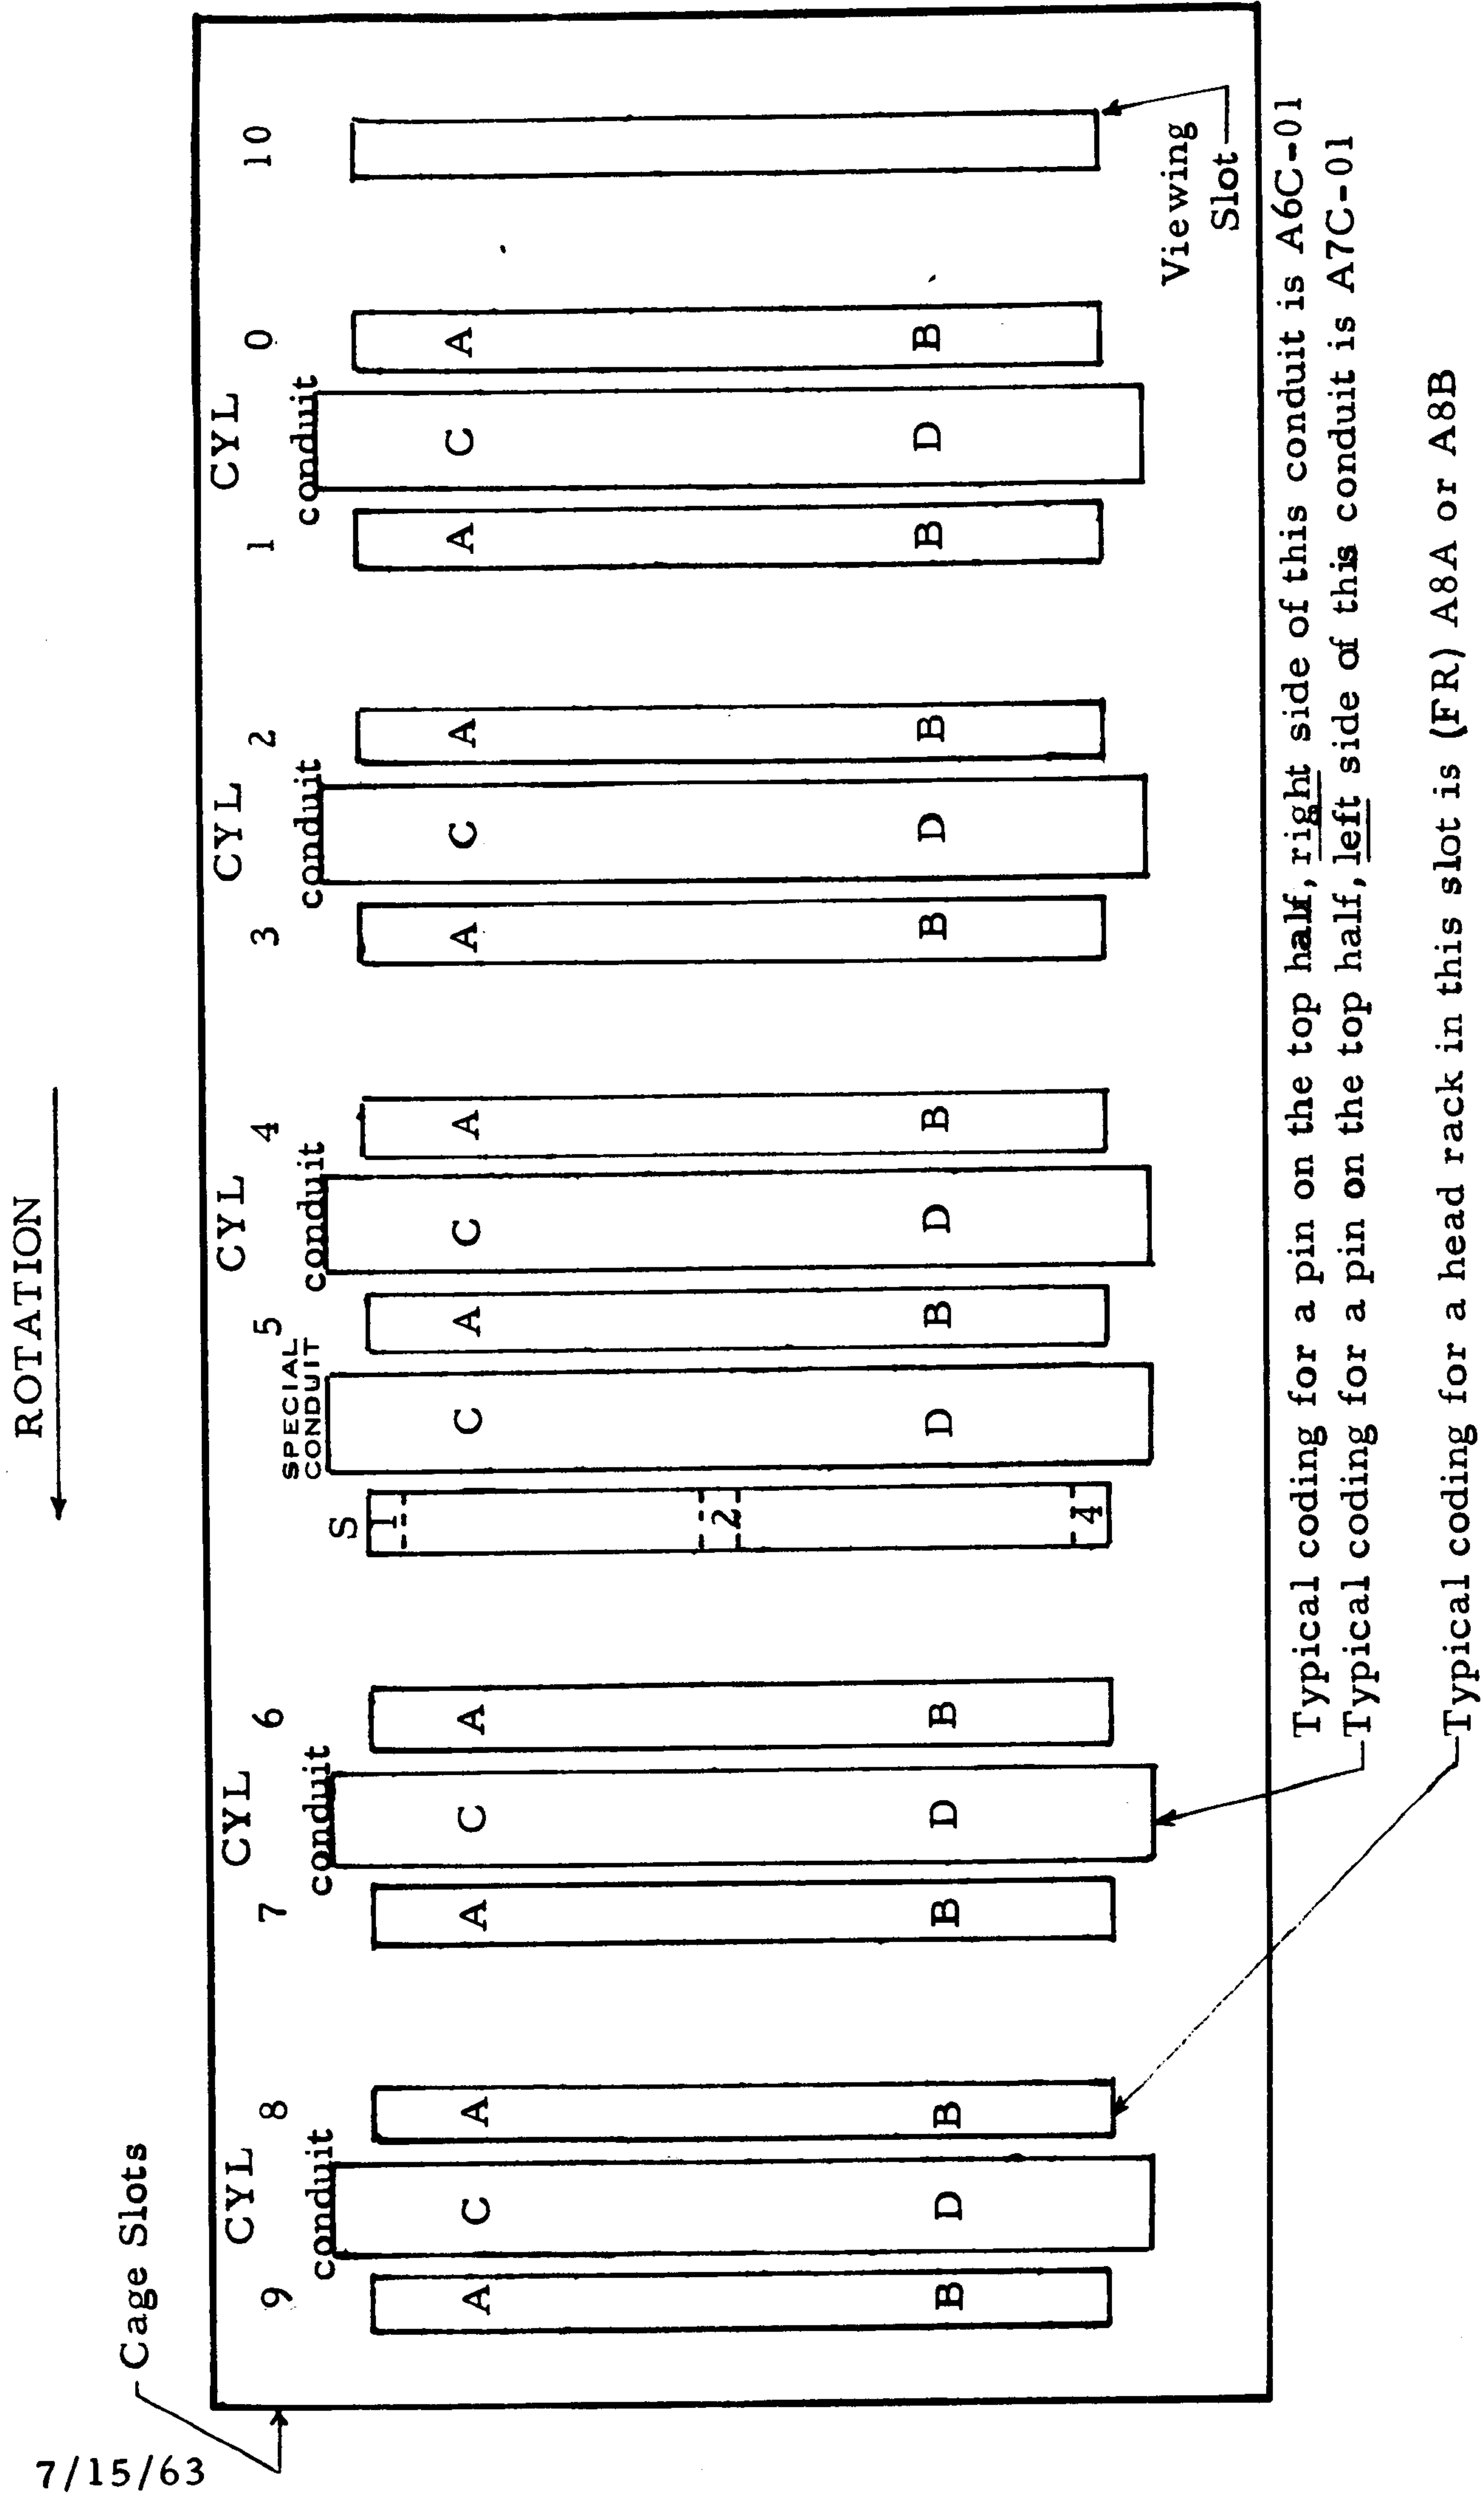

FIGURE AI-5 DRUM CAGE AND CONDUIT LOCATION
- L. Check for proper drum rotation as follows: Turn Head Air switch Off. Open upper enclosure door and observe rotor surface through slot S. (Refer to Figure AI-5). While observing drum surface, switch CB 2 On momentarily and Off. THIS IS THE ONLY POSITIVE CHECK OF ROTATION. A supplementary method of checking rotation is to scope the Early and Late indexes (A33H and A32H respectively) at the transducer output as follows: